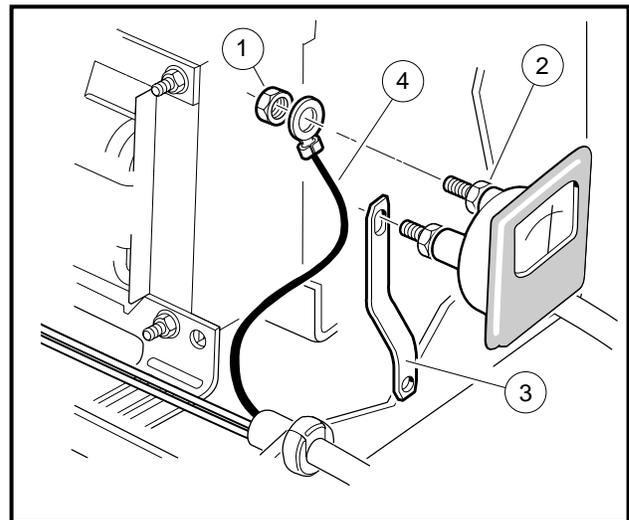

Figure 14-20 Charger Cord Replacement
3. Remove the black lead of the charger DC cord (4) from the ammeter by loosening the nut (1). Support the terminal as the nut is loosened to prevent rotation of the connection (**Figure 14-20, Page 14-19**).
4. Attach black lead of new cord to ammeter. Install nut (1) onto post of ammeter slightly more than finger tight. While holding outside nut (1), turn inside nut (2) counterclockwise 1/4 turn (**Figure 14-20, Page 14-19**).